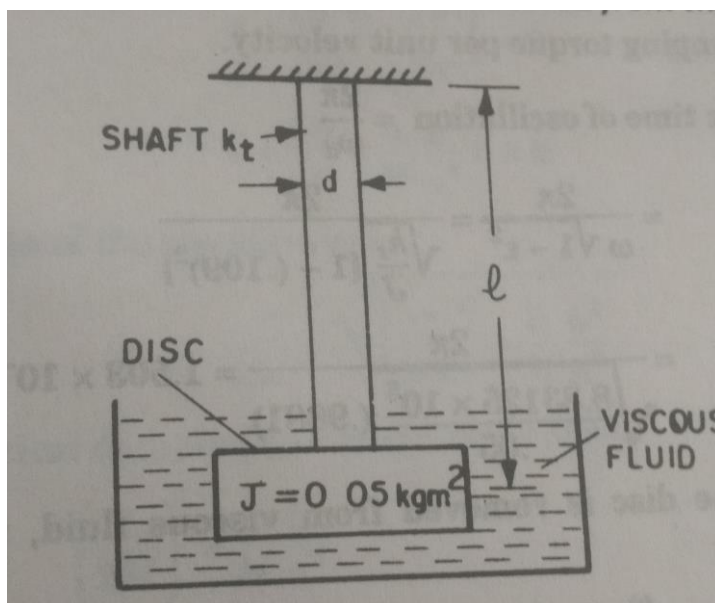

Figure: 3
7. The torsional pendulum with a disc of moment inertia $J=0.05 \text{ kg.m}^2$ immersed in a viscous fluid as shown in figure.3. During vibration of pendulum, the observed amplitudes on the same side of the neutral axis for successive cycles are found to decay 50% of the initial value. The diameter of the shaft is 10mm and length of shaft is 0.5 m and rigidity modulus of the shaft is 84 G.Pa. Determine (a) logarithmic decrement (b) The periodic time of vibration (c) the frequency when the disc is removed from the fluid.